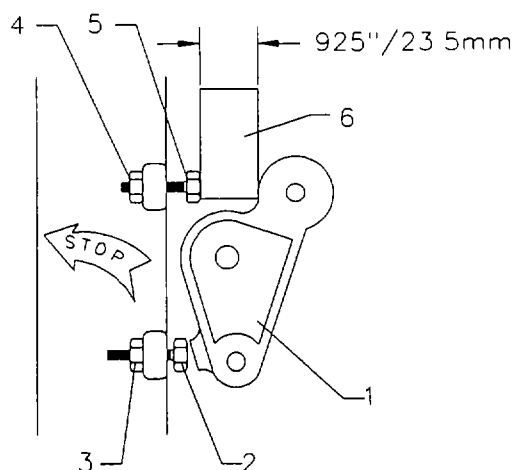

Figure 6-4. Governor Stop/Run Lever.
- a. Adjustment. Refer to figure 6-4.